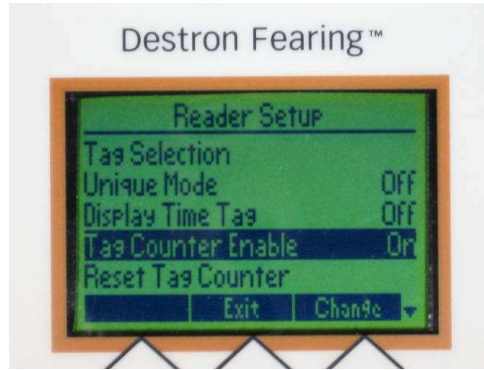

FIG. 67: Reader Setup Screen: Tag Counter Enable ON
1. Press the UP/DOWN Arrow Keys on the Reader Setup Screen and highlight the "Tag Counter Enable" line. See Fig. 67.